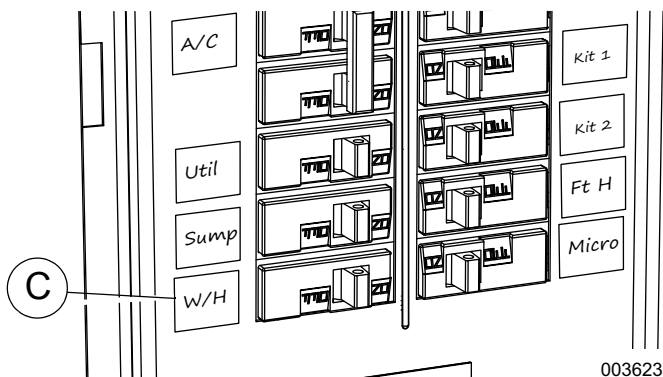

Figure 3-3. Label Breakers
- See **Figure 3-3**. Apply provided circuit directory labels (C) and mark each circuit accordingly with a pen.